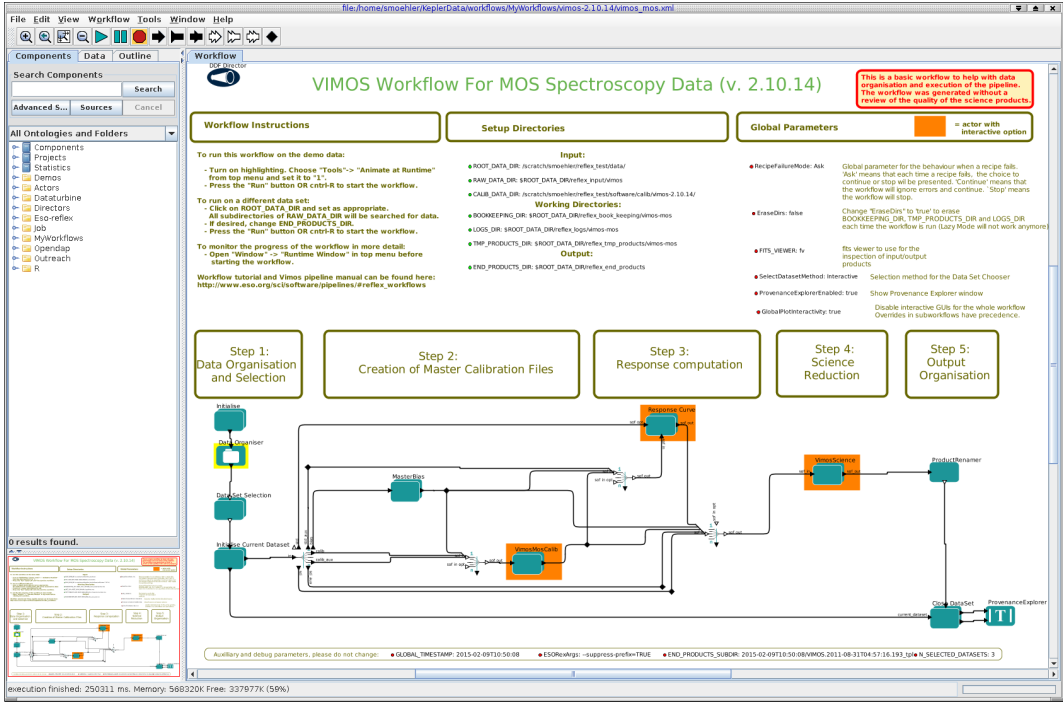

Figure 4.2: *VIMOS/MOS workflow general layout.*
2. Now open the VIMOS workflow by clicking on File -> Open File, selecting first vimos-3.0.0 and then the file VimosMos.xml in the file browser. You will be presented with the workflow canvas shown in Figure 4.2. Note that the workflow will appear as a canvas in a new window.